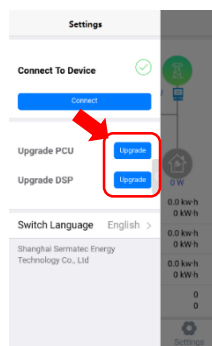

Figure 4-9
4.Tap "Upgrade". The software will be upgraded. (Figure 4-9, Figure 4-10, Figure 4-11)